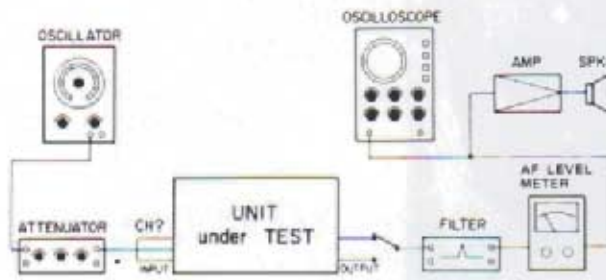

Fig. 9-5-15. Crosstalk Measurement Set-Up
1. Connect test equipment as shown in Fig. 9-5-15.